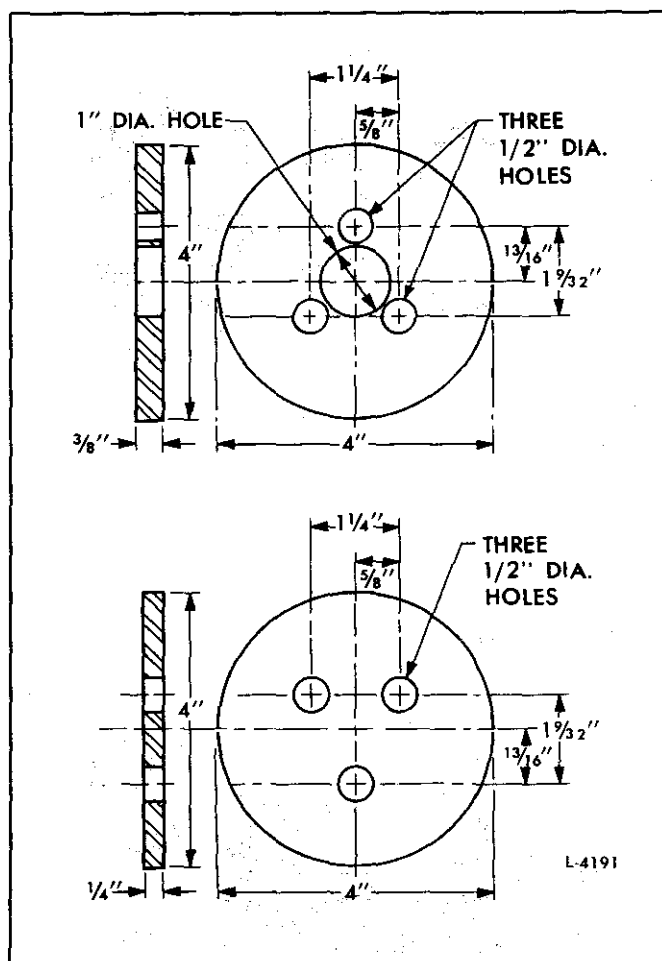

Fig. 10 - Plates for Bearing Test Fixture
3. Place the steel plate (lower plate shown in Fig. 10) against the hub and bearing. Insert two 3/8"-16 bolts and one 5/16"-18 bolt through the plate and thread it into the cylinder block. Tighten the two 3/8"-16 bolts to 40-45 lb-ft (54-61 N·m) torque and the 5/16"-18 bolt to 19-23 lb-ft (26-31 N·m) torque.
If the crankshaft and camshaft gears are mounted on the engine, a suitable fixture which may be held in a vise can be made with two plates (Figs. 10 and 12). One of the plates is used to take the place of the flywheel housing and the other the cylinder block. *Engine-mounted* conditions are simulated by tightening the 3/8"-16 attaching bolts and nuts to 40-45 lb-ft (54-61 N·m) torque.
2. Clamp the idler gear assembly and fixture in a vise (Fig. 10).